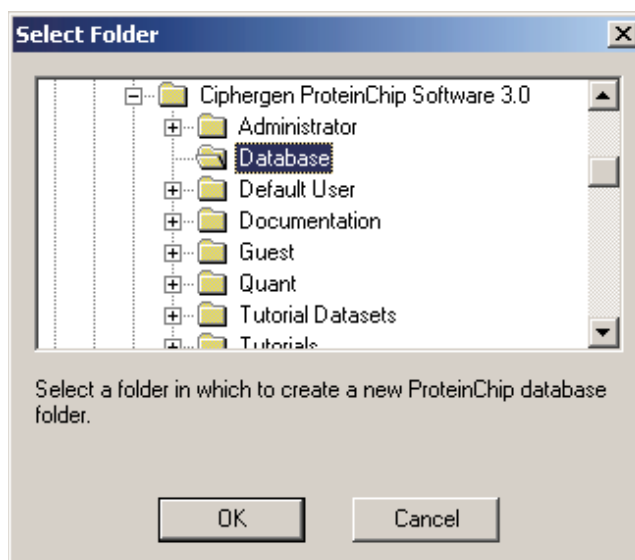

Figure 2-3: The *Select Folder* dialog.
3. Press the ... button to browse to other directories using the **Select Folder** dialog (Figure 2-3). When the desired folder is selected, press the **Next** button.